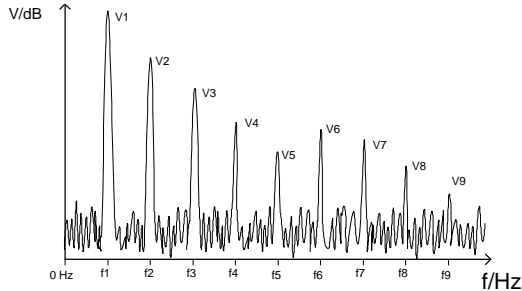

FIG. 1: Distortion measurement
□ Selective harmonic distortion and total harmonic distortion (d_i and d_n see **FIG. 1**),